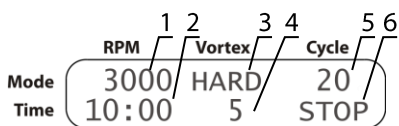

Figure 4. SMS-algorithm
- 5.3.6.1 **SMS-algorithm**. Set the centrifugation speed (fig. 4/1) and time (fig. 4/2). Set the vortexing intensity (fig. 4/3) and time (fig. 4/4). Set the number of SMS-algorithm cycles (fig. 4/5).
- 5.3.8. After the set number of cycles is performed, the unit stops, display shows blinking indication STOP (fig. 4/6), accompanied by a sound signal. Press the **Run/Stop** key to stop the signal. Model **MSC-6000** unlocks the lid after the rotor stops. Open the lid and remove the tubes.